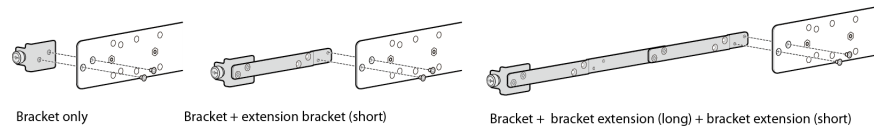

Figure 12. Attach Adjustment Bracket to Inner Rail: Combinations #1, 2, 4
4. Position the adjustment bracket on the side of the inner rail with the UP arrow and attach the adjustment bracket to the inner rail using the supplied adjustment screws. Attach the screws through the holes from the side of the inner rail without the UP arrow. Figure 12 on page 29 shows examples of Combinations #1, 2 and 4 from Table 2 on page 16.